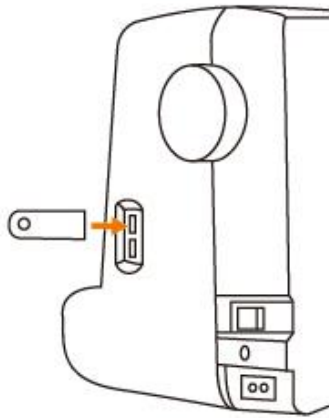

Figure 12
- ① Import the patterns in format supported by the machine into the USB disk, and then insert the USB disk into the USB interface of the machine in Figure 12.